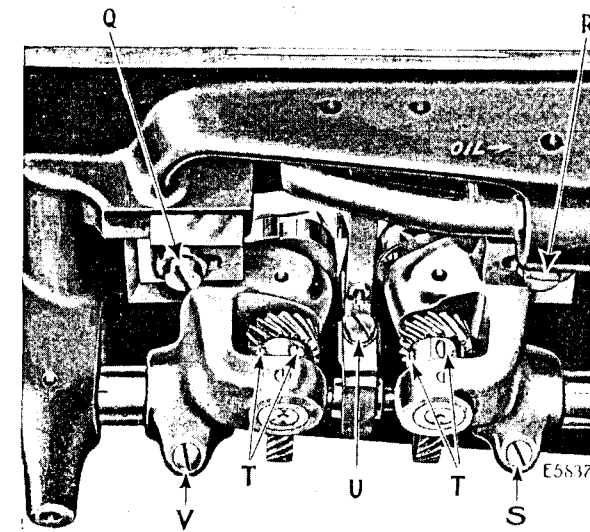
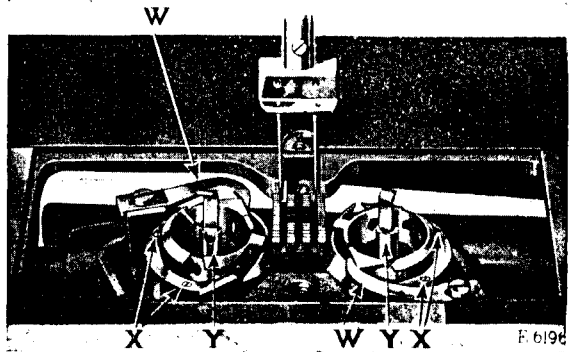
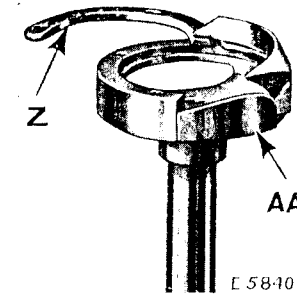

Fig. 24. Adjustment of Hook Saddles on Machines 112w116 and 112w120
Fig. 26. Removing Bobbin Cases
Fig. 27. Sewing Hook Removed from Machine
In case the sewing hooks are not correctly timed, turn the balance wheel over toward you until the needle bar has descended to its lowest point and has risen until the lower timing mark across the needle bar is just visible at the bottom of the needle bar bushing. Then loosen the four screws (T, Fig. 24) in the hook shaft gears and turn the sewing hooks until the point of each
Turn the balance wheel over toward you until the points of the sewing hooks are at the centre of the needles. Loosen the four screws (Q, R, S and V, Fig. 24) underneath the bed of the machine, and move the hook saddles to the right or left, as may be required, until the points of hooks are as close to the needles as possible without striking them, then securely tighten the four screws (Q, R, S and V).
The needle guard washer (AA, Fig. 27) which is attached to the bottom of each sewing hook, should be sprung until it prevents the needles from striking the hooks in case the needles are deflected towards the hooks.
Remove the four hook gib screws (X, Fig. 26) from the sewing hooks, lift off the hook gibs (Z, Fig. 27) and remove the bobbin cases (Y, Fig. 26).
Remove the throat plate, feed dog and the two bobbin case opening levers (W, Fig. 26). Also remove the bobbin cases as instructed above, then take out the four screws (T, Fig. 24) from the hook shaft gears and lift out the sewing hooks.
Remove the throat plate; clean the lint and dust from between the feed points and replace the throat plate; tip the machine back and turn the balance wheel towards you until the feed dog is at its highest position; loosen screw (U, Fig. 24) in the feed lifting cam fork and raise or lower the feed dog, as may be required, and retighten the screw (U).